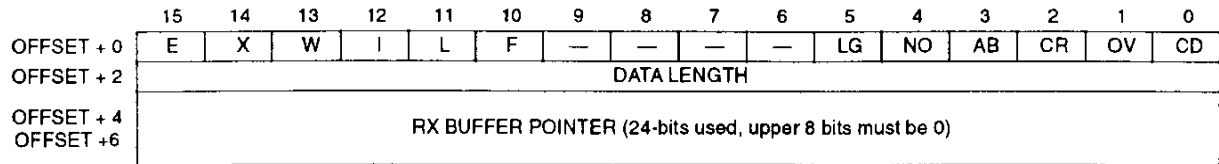

Figure 4-4. HDLC Receive Buffer Descriptor
4.3.10.3 HDLC RECEIVE BUFFER DESCRIPTOR (RX BD) . The HDLC controller uses the Rx BD to report information about the received data for each buffer. The Rx BD is shown in Figure 4-4.